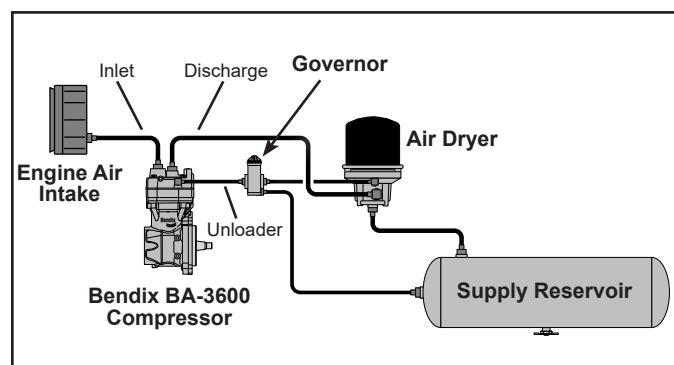

Figure 8 - Compressor Charging System Example
The BA-3600 compressor is only permitted to be naturally aspirated. The use of engine turbocharger as an air source is not allowed. See Figure 8 for an example of a naturally aspirated air induction system.
2. Make certain the unloader system lines are connected as illustrated in *Figure 8*.